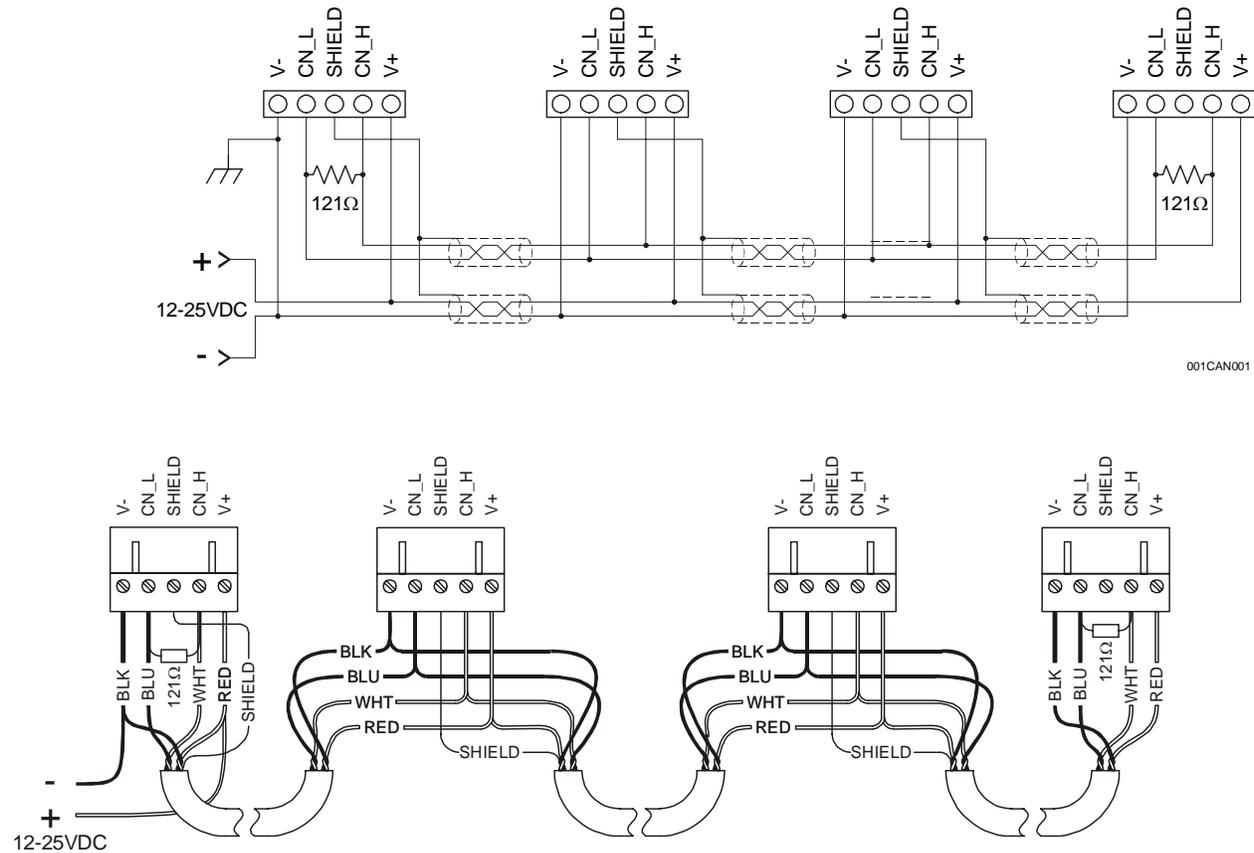

Figure 2.7 – CAN Wiring
c. CAN Wiring Rules (See Figure 2.7)
4. To ground the cable shield, connect to pin 3 as shown in Figure 2.7.